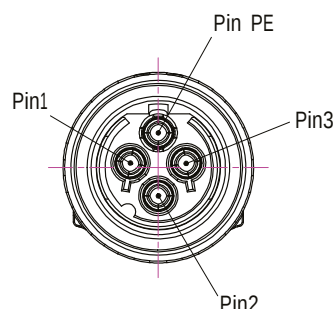

figure 4-16 Mains power cable - AC
4. Wire the power cable to the junction box or receptacle. Refer to the color code and pin numbers shown in *figure 4-16* (AC cable), and *table 4-3*.